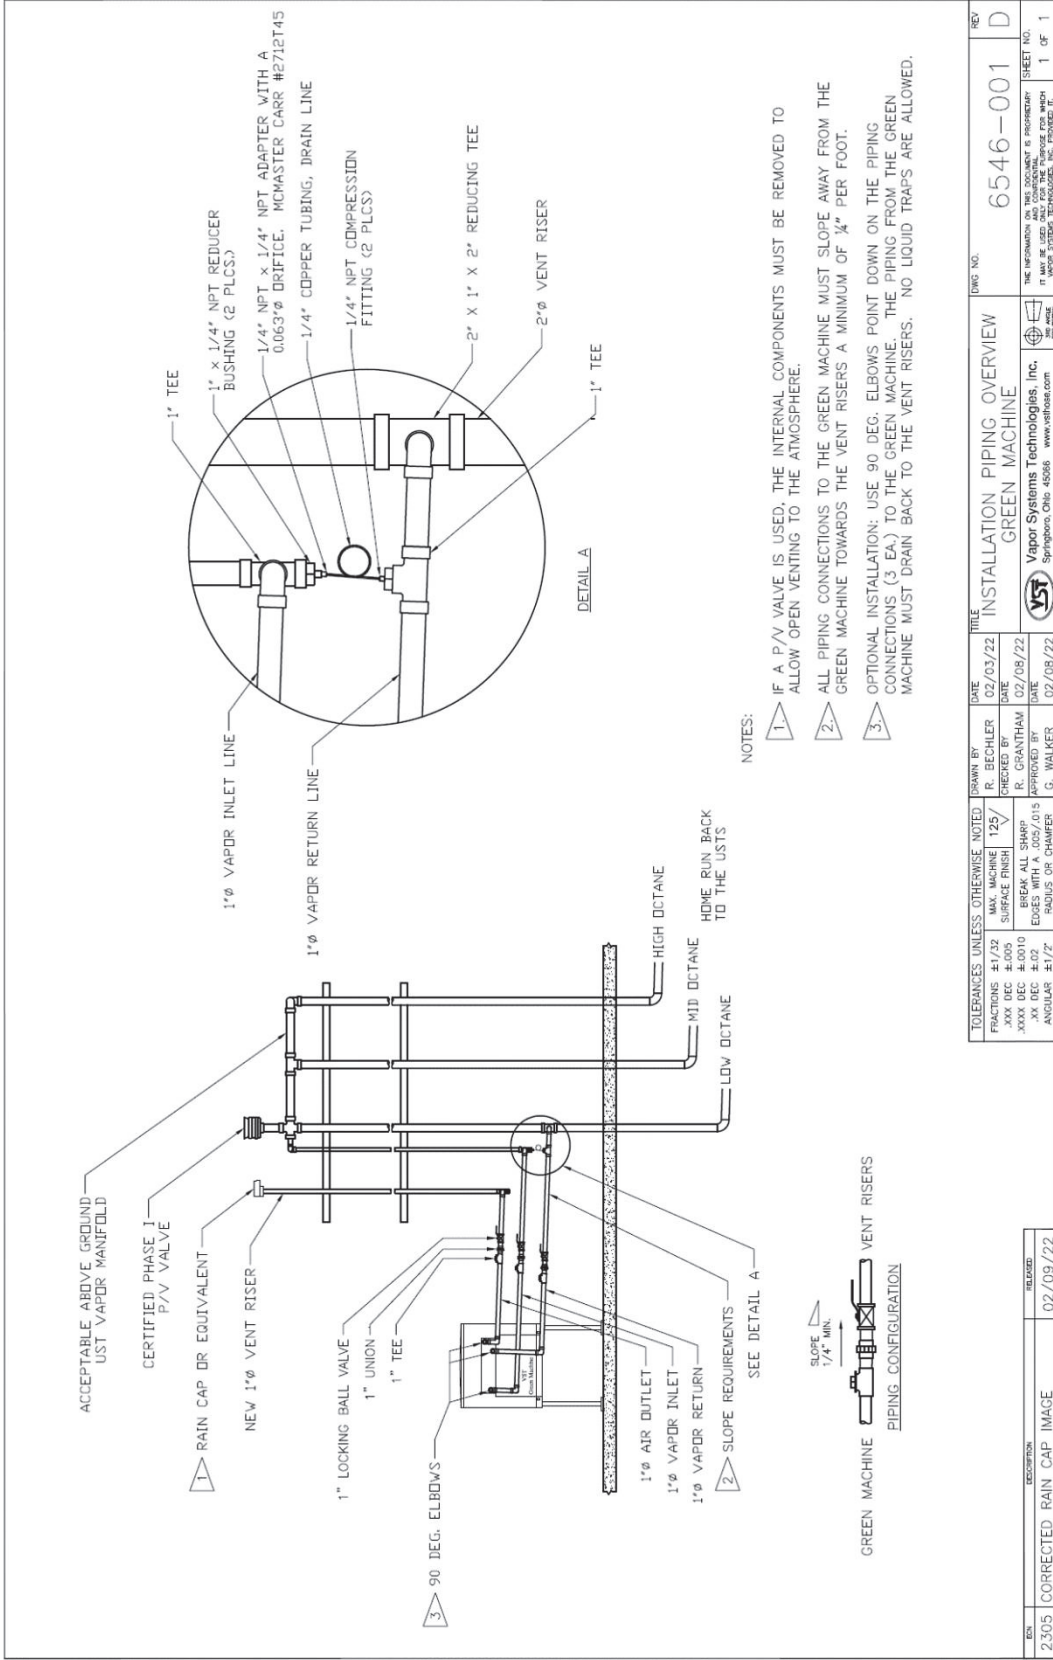

Figure 9-24: Vapor Piping Overview
1. At the GREEN MACHINE, remove the locks from the three ball valves, close the three valves, and remove a cap from one of the tees. (Only one open tee is required for this test.) **See Figure 9-24.**
See Figures 9-24.